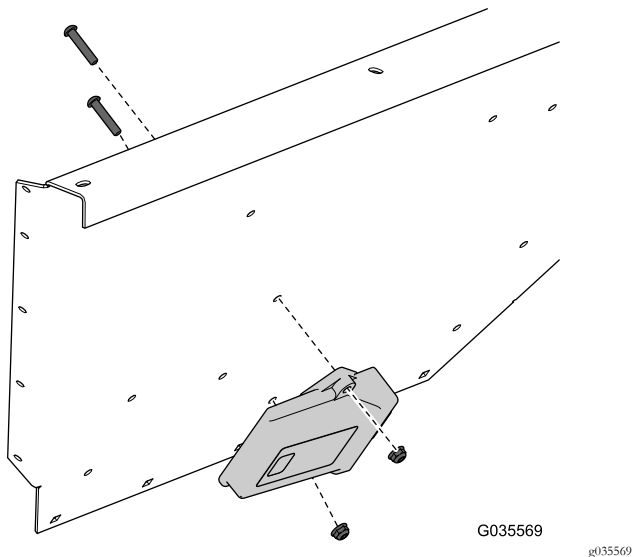

Figure 3
8. Remove the wireless remote base unit from the fender guard (Figure 3).